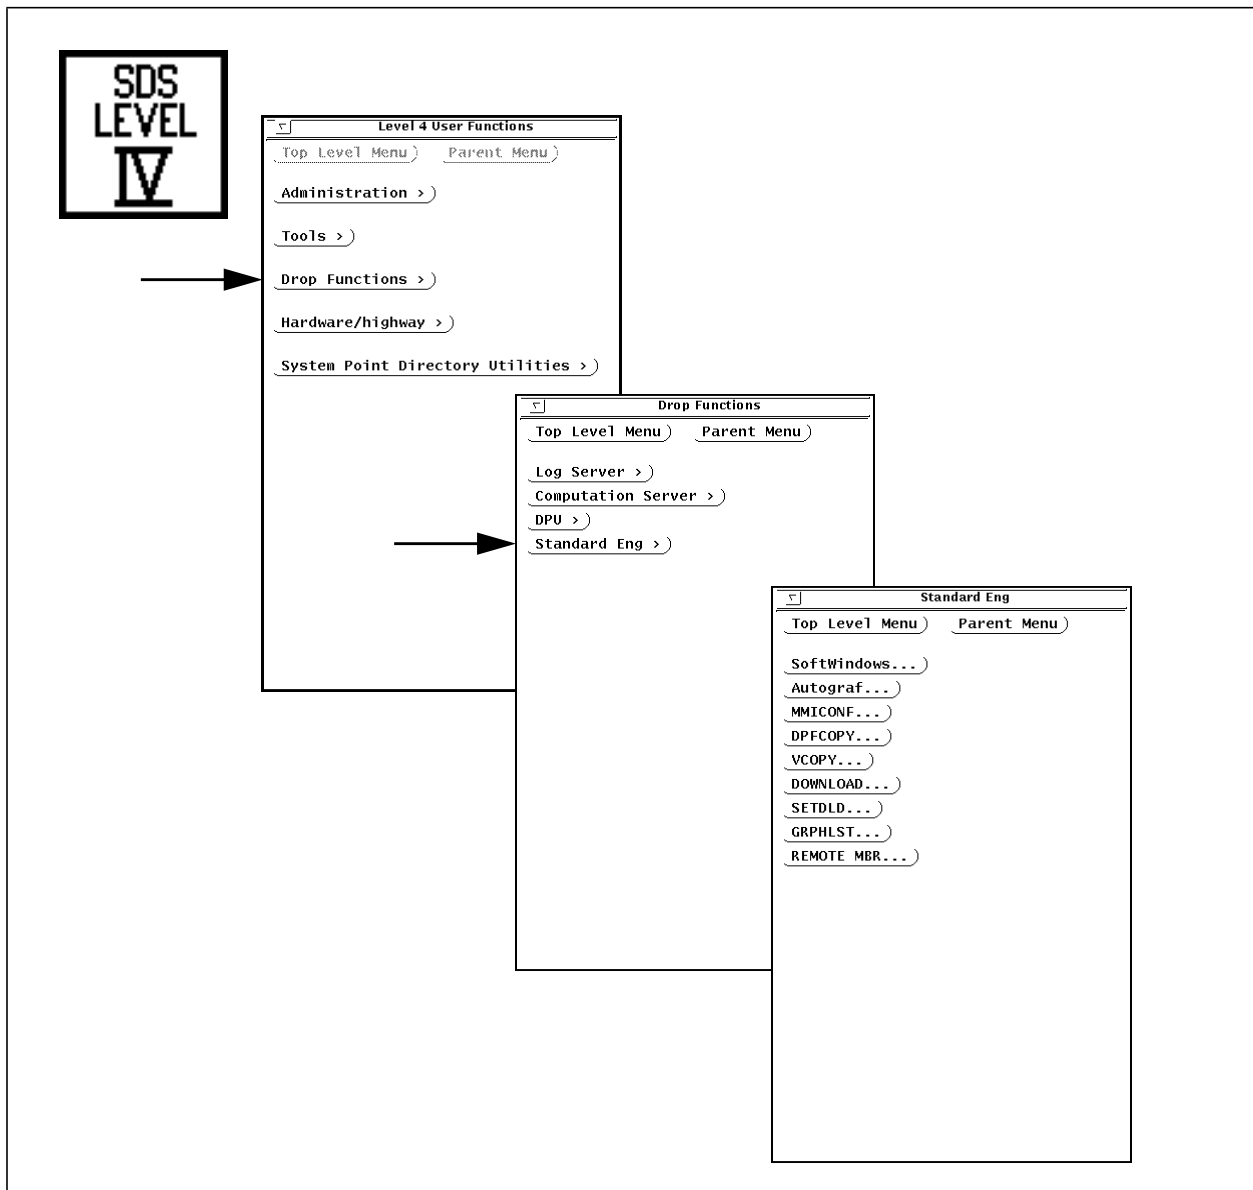
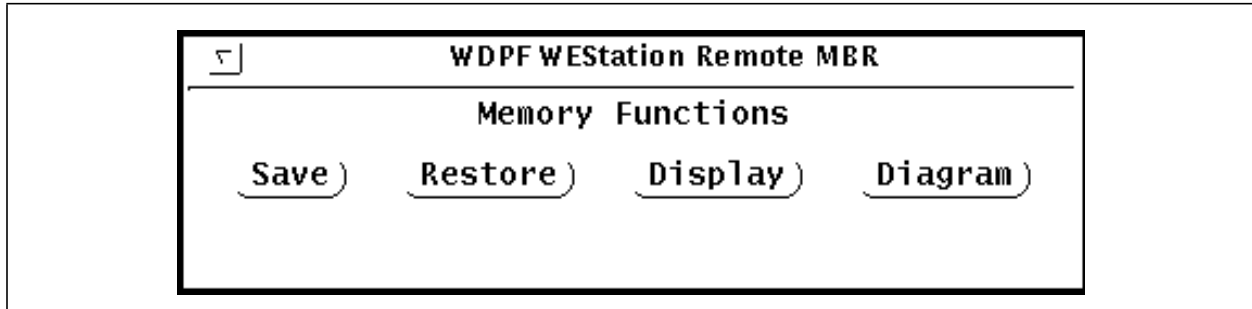
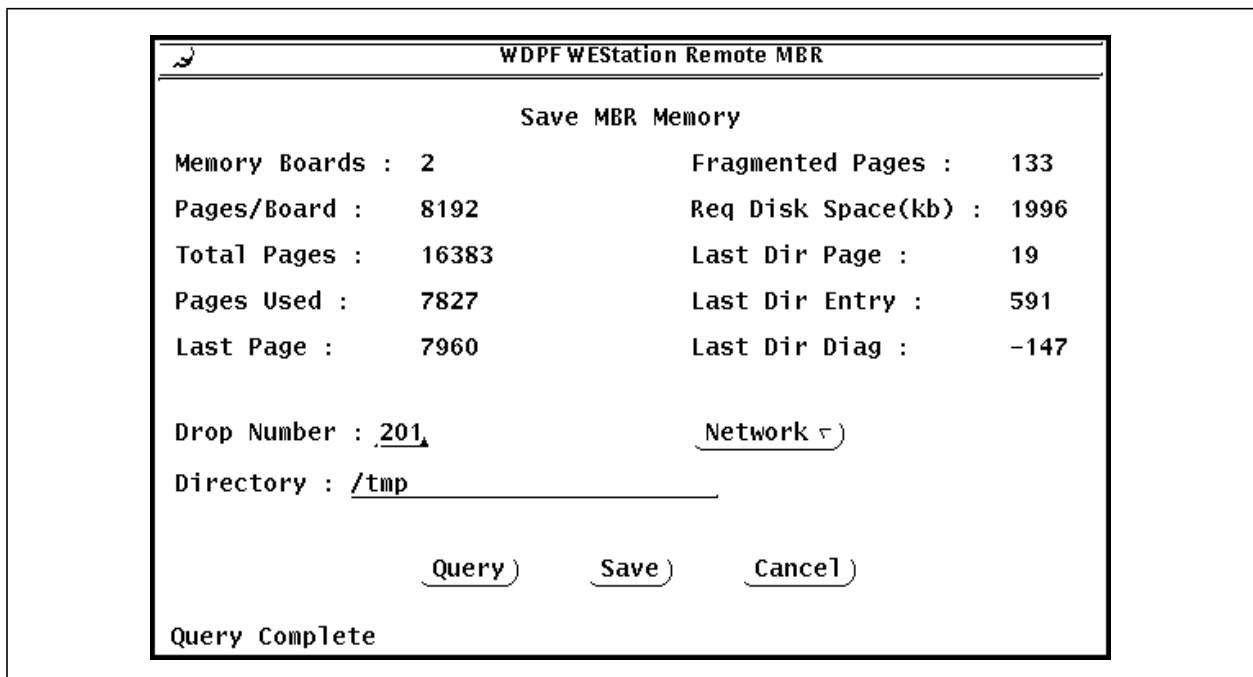
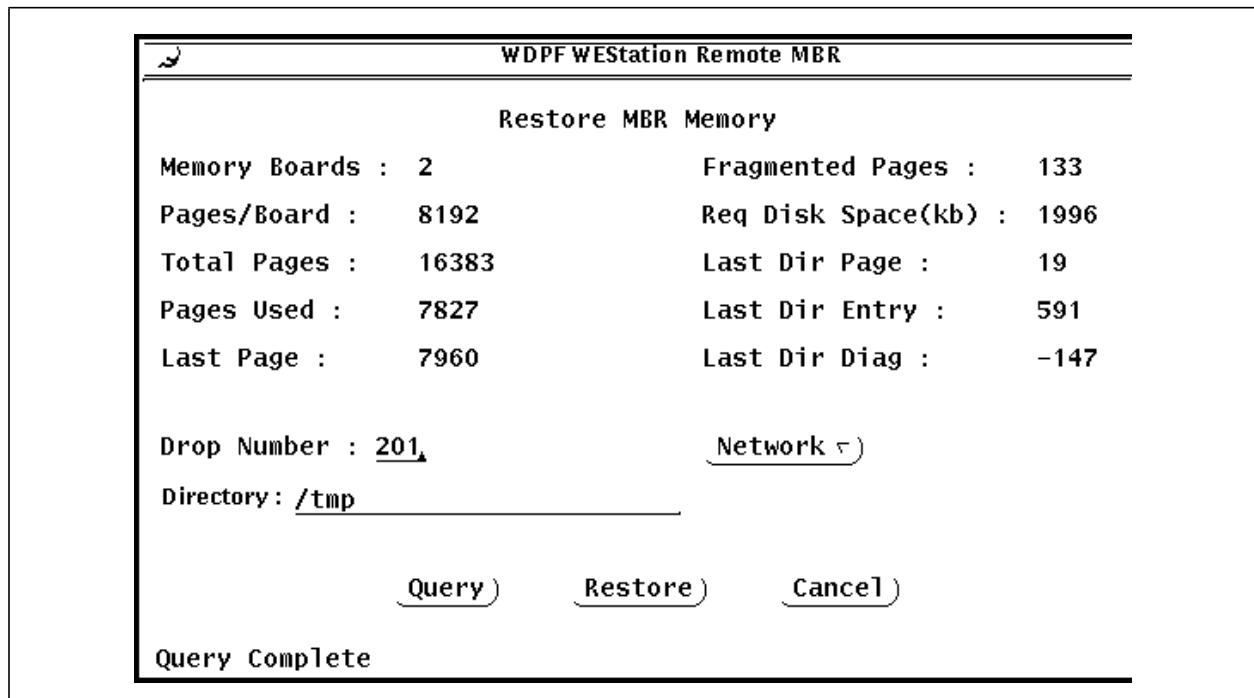

Figure 3-1. Menus for Accessing WDPF Unix Utilities
Figure 3-2. REMOTE MBR Memory Functions Window
Figure 3-3. Save MBR Memory Window
Figure 3-4. Restore MBR Memory Window
This will display the Standard Engineering menu as shown in Figure 3-1.
1. Select the **REMOTE MBR** button from the Standard Engineers' Menu as shown in Figure 3-1. The initial window is displayed as shown in Figure 3-2.
1. Select the **Save** button on the initial window (shown in Figure 3-2). The Save MBR Memory window is displayed as shown in Figure 3-3, except that the MBR data will not be displayed.
Memory files are saved in the users home directory (for example /user/user4) with the previously mentioned naming convention unless the user specifies otherwise by entering a directory in the directory entry field, as shown in Figure 3-3).
1. Select the **Restore** button on the initial window (shown in Figure 3-2). The Restore MBR Memory window is displayed as shown in (Figure 3-4).
1. Select the **Diagram** button from the initial window (as shown in Figure 3-2). The Save MBR Diagram window will be displayed as shown in Figure 3-7.